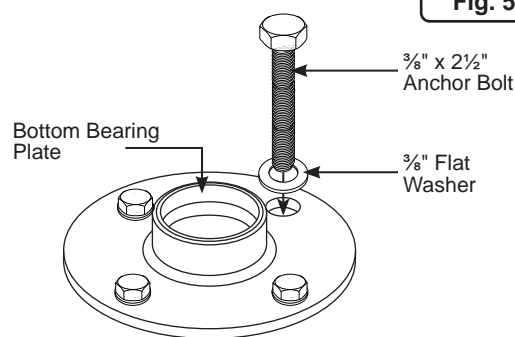

Fig. 5
5. Place the bottom bearing plate back over the anchor holes and anchor it with four (4)  $\frac{3}{8}$ " x  $2\frac{1}{2}$ " anchor bolts and flat washers (Figure 5).